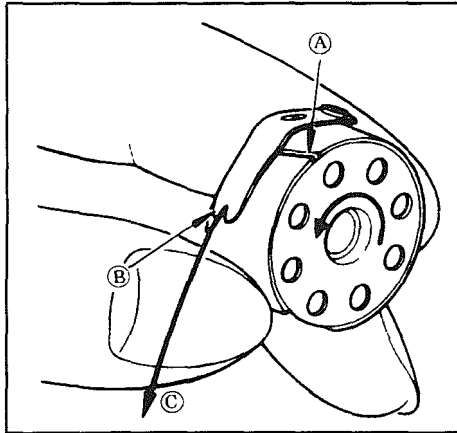

Fig.11
5. SETTING THE BOBBIN INTO THE BOBBIN CASE (Fig. 11)